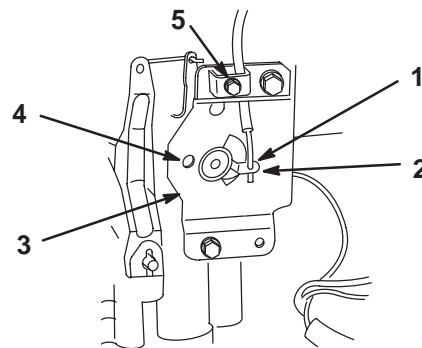

Figure 8
- Place throttle control lever in fast position.(Fig. 8).
- Hook wire Z-bend into hole of speed control lever (Fig. 8).
- Loosen cable clamp screw allowing cable installation, but do not tighten (Fig. 8).
3. Replace the spring washer, dish down and locknut (Fig. 8).